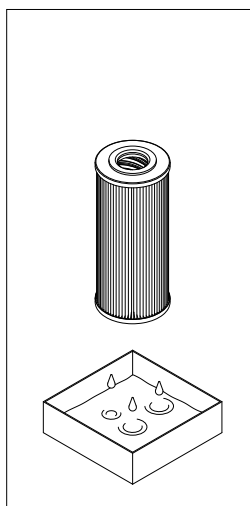

fig. 19
- (Fig. 19) Drip the waste operating fluid from the filter element to the collection vessel